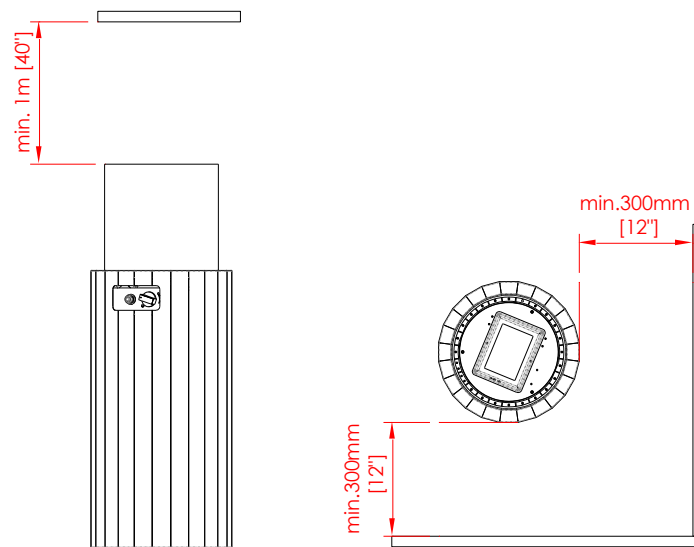

Fig 2 – Minimum distances
- This appliance must be kept away from flammable materials during use. Do not place any combustibile materials within a distance of 0,3 m (12") of BINO and 1 m (40") over the appliance (Fig 2).